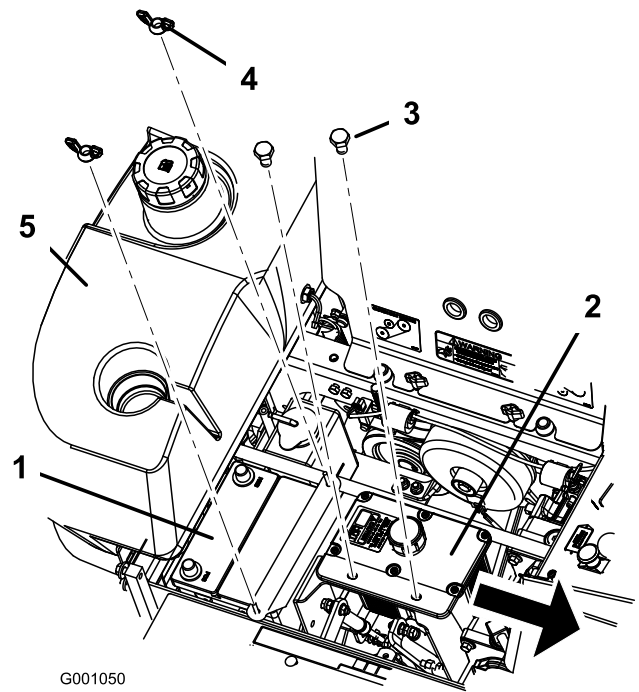

Figure 48
6. Secure battery with J-bolts, hold down clamp and 2 washers (1/4 inch), and 2 wing nuts (1/4 inch) (Figure 48).
6. Remove both wing nuts (1/4 inch) securing the battery clamp (Figure 48).
7. Remove the two bolts holding the hydraulic tank in place (Figure 48).